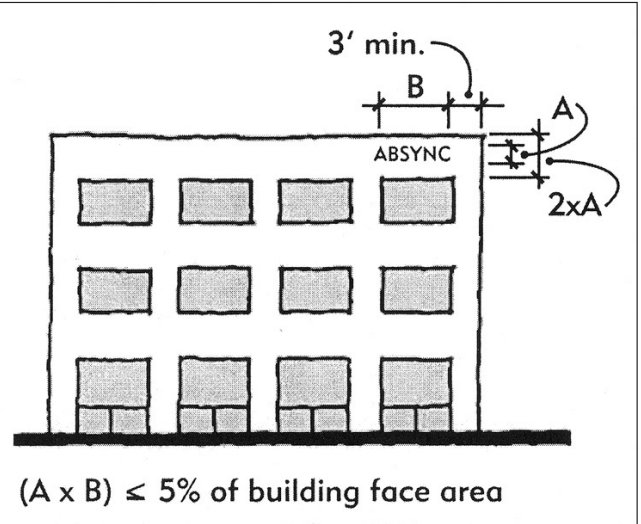

fig. 12a Primary Identification Sign at Building Parapet
- 12.3 The height of the area on which the sign appears shall not be less than twice the height of the sign (fig. 12a).
- 12.5 A minimum distance of three feet shall be maintained between the end of the sign and building corner (fig. 12a).
- 12.6 Determine maximum letter/symbol height and maximum sign area, based upon the formula in fig. 12a.